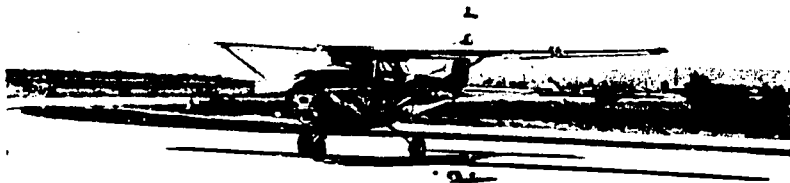

Figure 51. PRIMARY TRAINER—light, propeller-driven Cessna T-41.
1. The Cessna T-41A, a light two-seater private-type airplane fitted for instructional purposes with dual controls. It has a 145 hp piston-driven engine and a simple fixed-pitch propeller (Fig. 51).